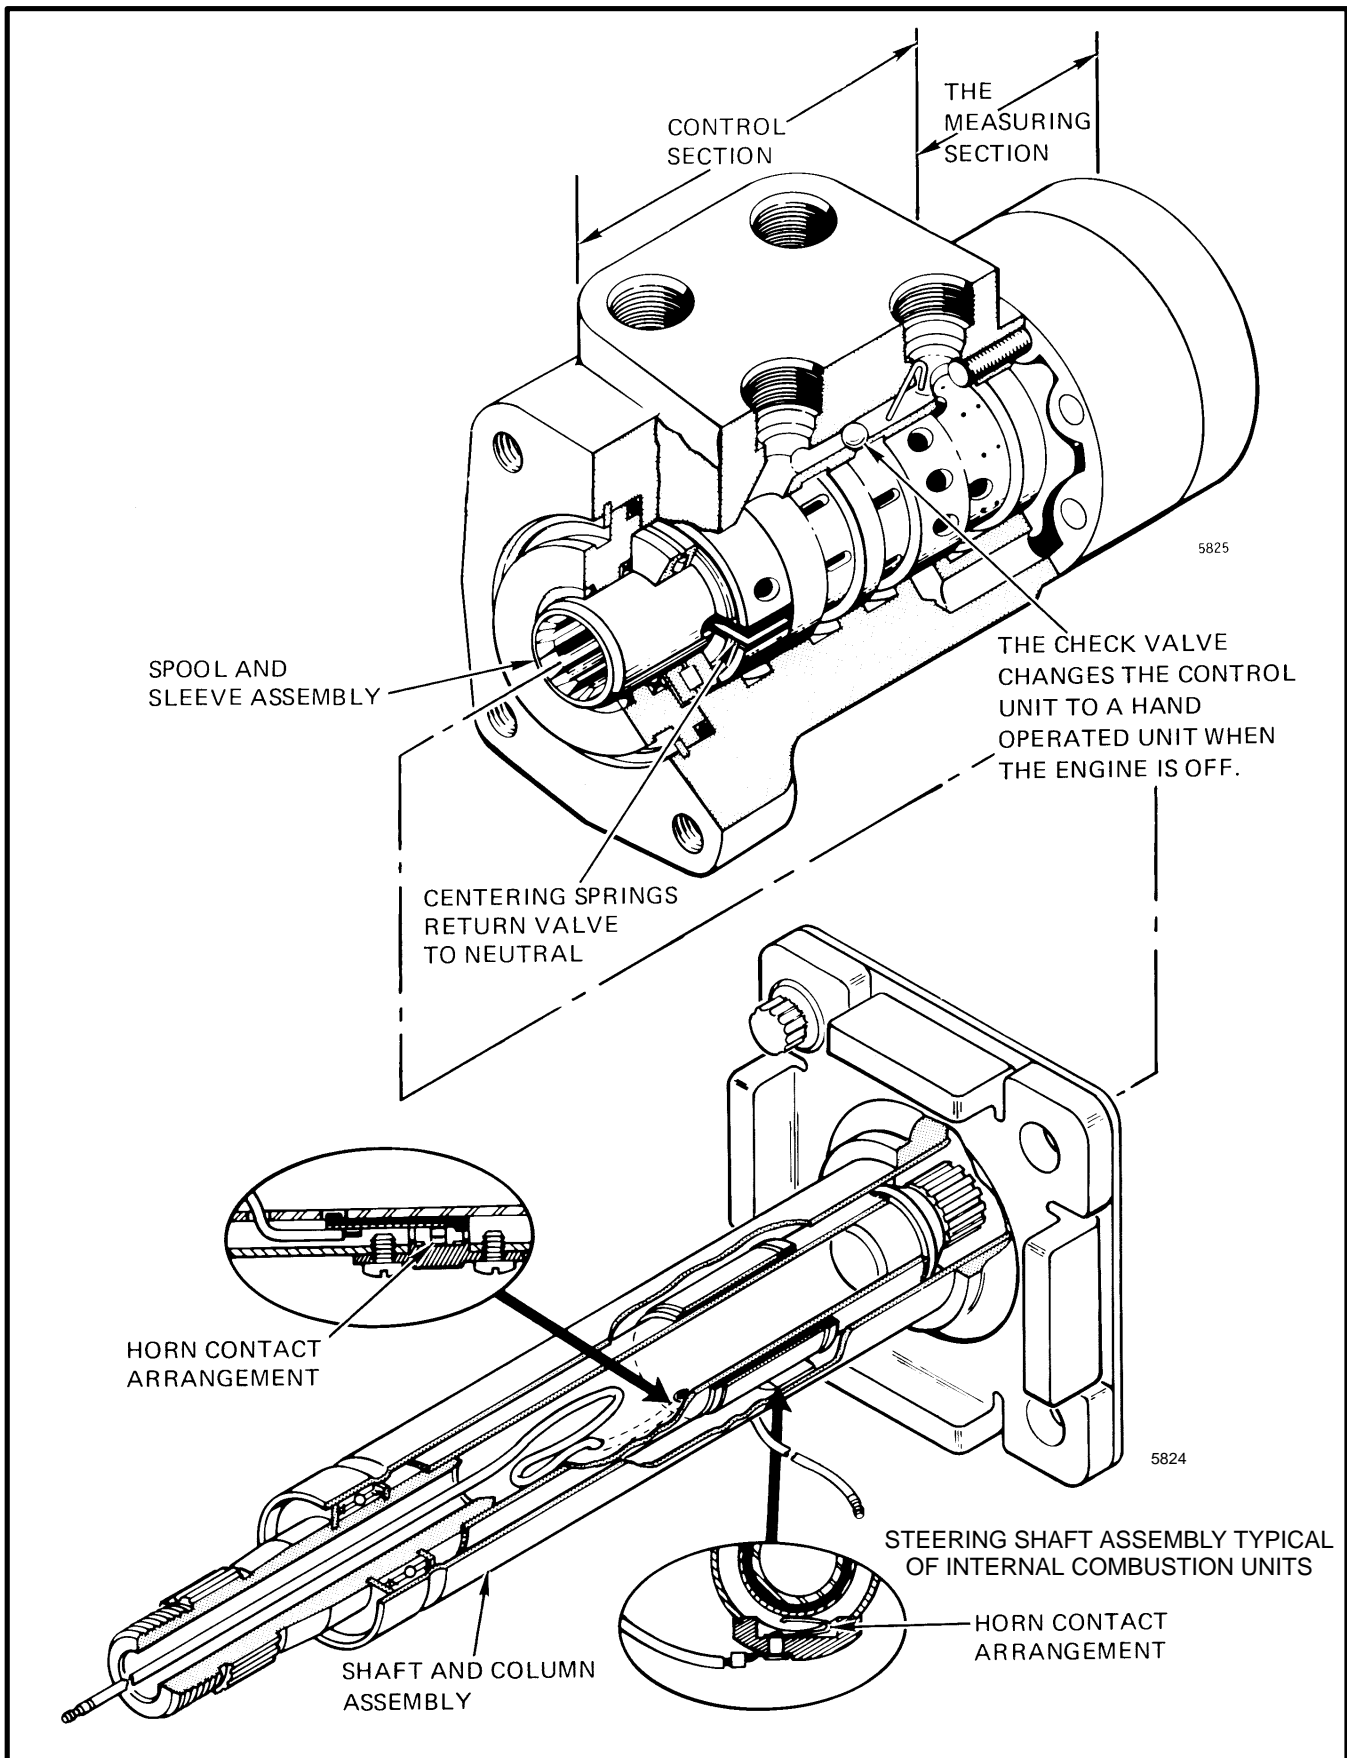

FIGURE 1. STEERING CONTROL UNIT
DESCRIPTION (See FIGURE 1.)
OPERATION (See FIGURE 1.)
STEERING WHEEL AND COLUMN ASSEMBLY (See FIGURE 1. through FIGURE 4.)
center of the steering wheel. The lower end of the steering shaft has splines or a tang to engage the steering control unit. Contacts at the horn button (see FIGURE 2.), a wire in the column and slip ring contacts in the column assembly (see FIGURE 1.) allow for horn operation by the operator.
3. Carefully lift the horn switch at the center of the steering wheel and pull the switch wire out of the steering shaft. See FIGURE 1. Pull the switch assembly out of the steering wheel and disconnect it. Remove the nut. If possible to install, use a puller to remove the steering wheel.
4. Put tags for identification on the meters and gauge wires at the steering column housing so that they can be connected correctly during assembly. Also put a tag on the horn wire. See FIGURE 1. Disconnect all wires.
2. Install the steering column and bracket on the steering control unit as removed during disassembly. Install this assembly in the column housing. Do not damage the horn wire contact (see FIGURE 1.) or column grommet. Make sure to install the grommets, washers and spacers as a sound isolator for the steering control unit.